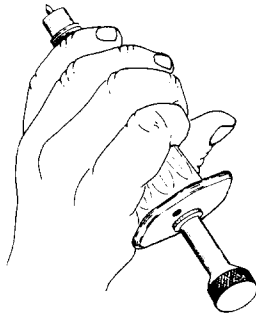

Fig. 6 – Fastener Position Against Work
- (2) Place point of fastener against exact location desired. See Fig. 6.